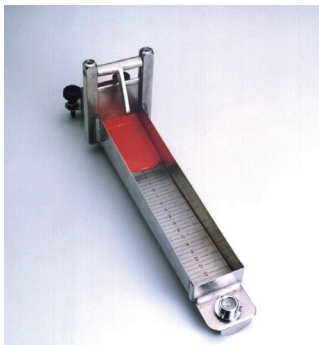

Figure 3
4. At the end of the selected time period, determine how far the material has flowed along the trough. Take the maximum reading at the centre of the trough and the minimum reading at the edge of the trough and average the values. (Fig.3) The average value is then compared against previously determined standards.